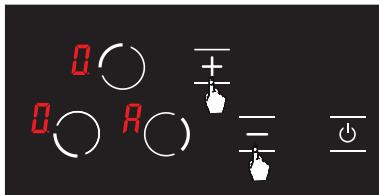

Figure 14
- After setting the auto heating, you may set the cooking level desired using the **+** and **-** keys. (see Fig. 14) The **R** icon and the cooking level selected are displayed alternatively on the screen.